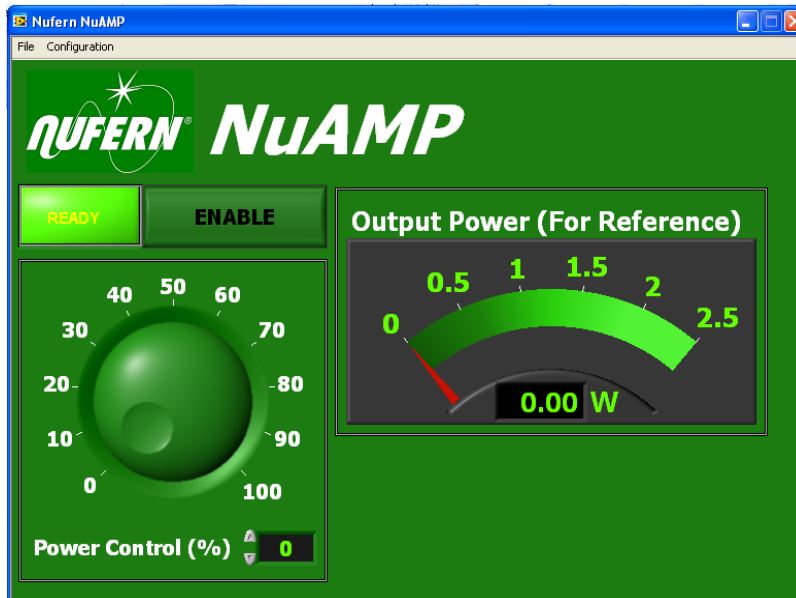

Figure 8: GUI Ready
8. Turn the Key Switch from position 1 to position 2. The GUI then changes to READY state and is ready to control the amplifier as shown in Figure 8. The output power monitor of the amplifier unit will also become active.